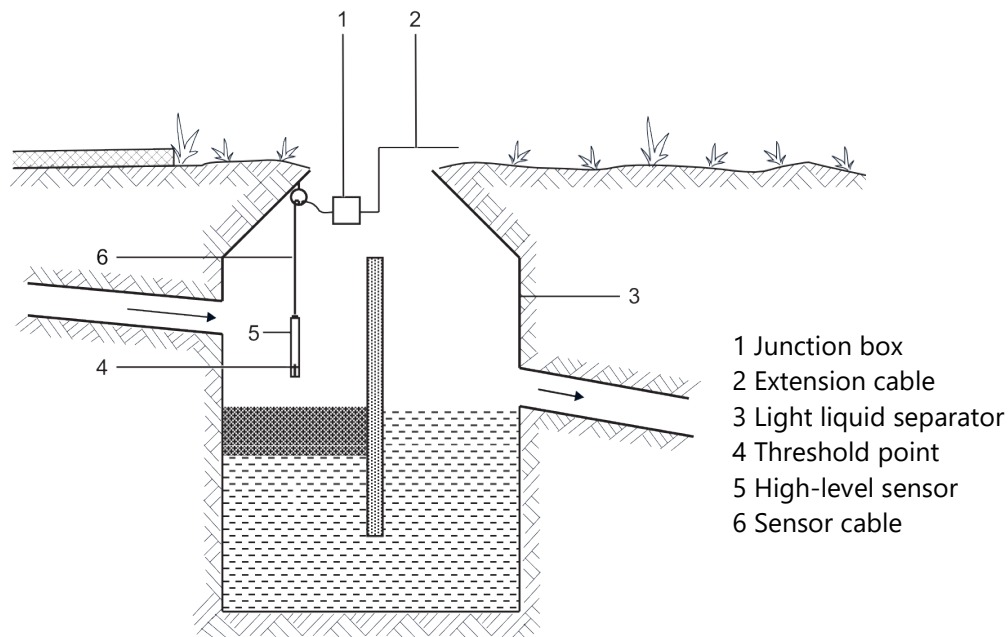

Figure 4: SEPARIX-T, installation
The high-level sensor is suspended on its cable (6) in the light liquid separator (3) in distance to the inlet because there is an increased risk of contamination or disturbance by splashing fluids (see Figure 4: SEPARIX-T, installation). The correct fastening method and materials depend on local installation rules and regulations and the material used for the separator (concrete, plastic, metal, etc.).